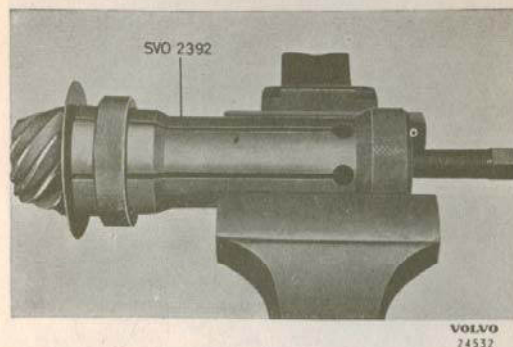

Fig. 5-13. Removing the rear pinion bearing
11. If necessary pull off the rear bearing (29) from the pinion (28) by using puller SVO 2392, see Fig. 5-13. The puller is fitted in the following way: slide the puller down over the rollers and press down the lock ring. Then tighten the puller with the screw until the rollers are against both the edge on the inner race and the edge on the puller. Strike the lock ring with a hammer.